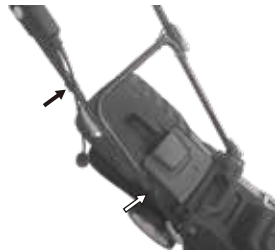

FIG.3
4. Secure the control cord with two wire clips (Fig. 3).